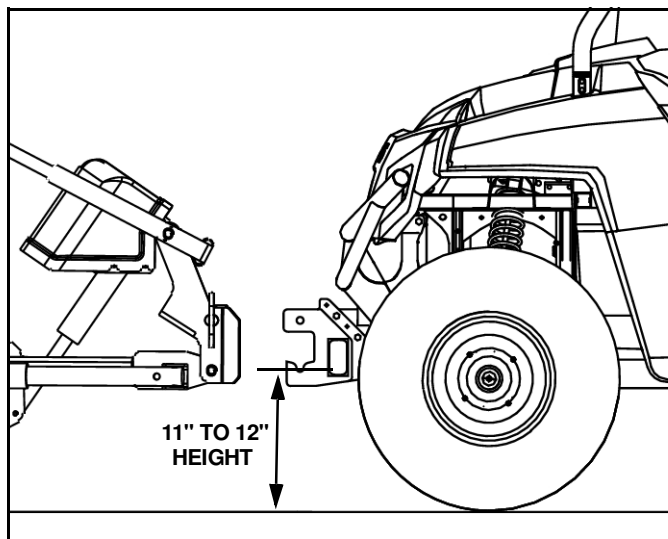
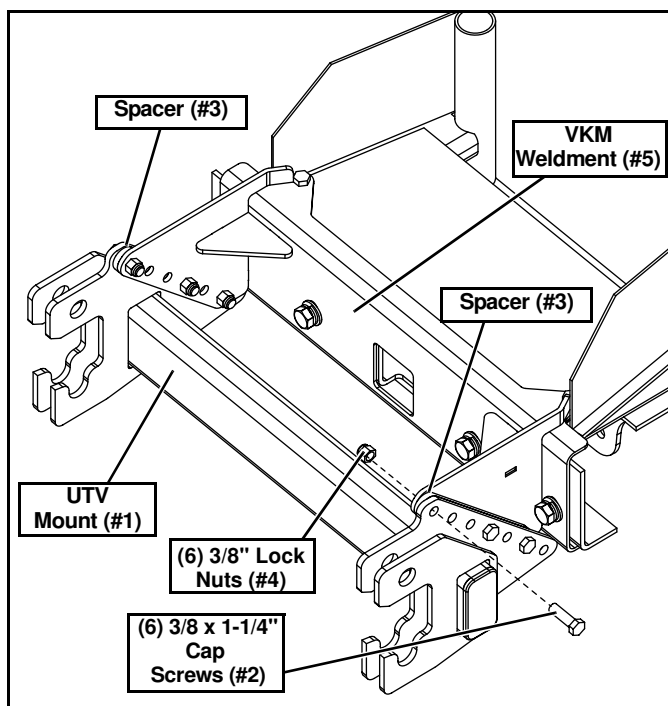

Figure 3
Figure 4
7. Position the UTV Mount (#1) on the machine. Align the Mount holes with the VMK Weldment (#5) to provide an 11" to 12" height between the lower pin slots and the ground. (See Figure 3.) Place spacers (#3) between VMK Weldment (#5) and UTV Mount (#1). Secure with (6) 3/8" x 1-1/4" cap screws (#2) and (6) 3/8" lock nuts (#4). Tighten hardware. (See Figure 4.)